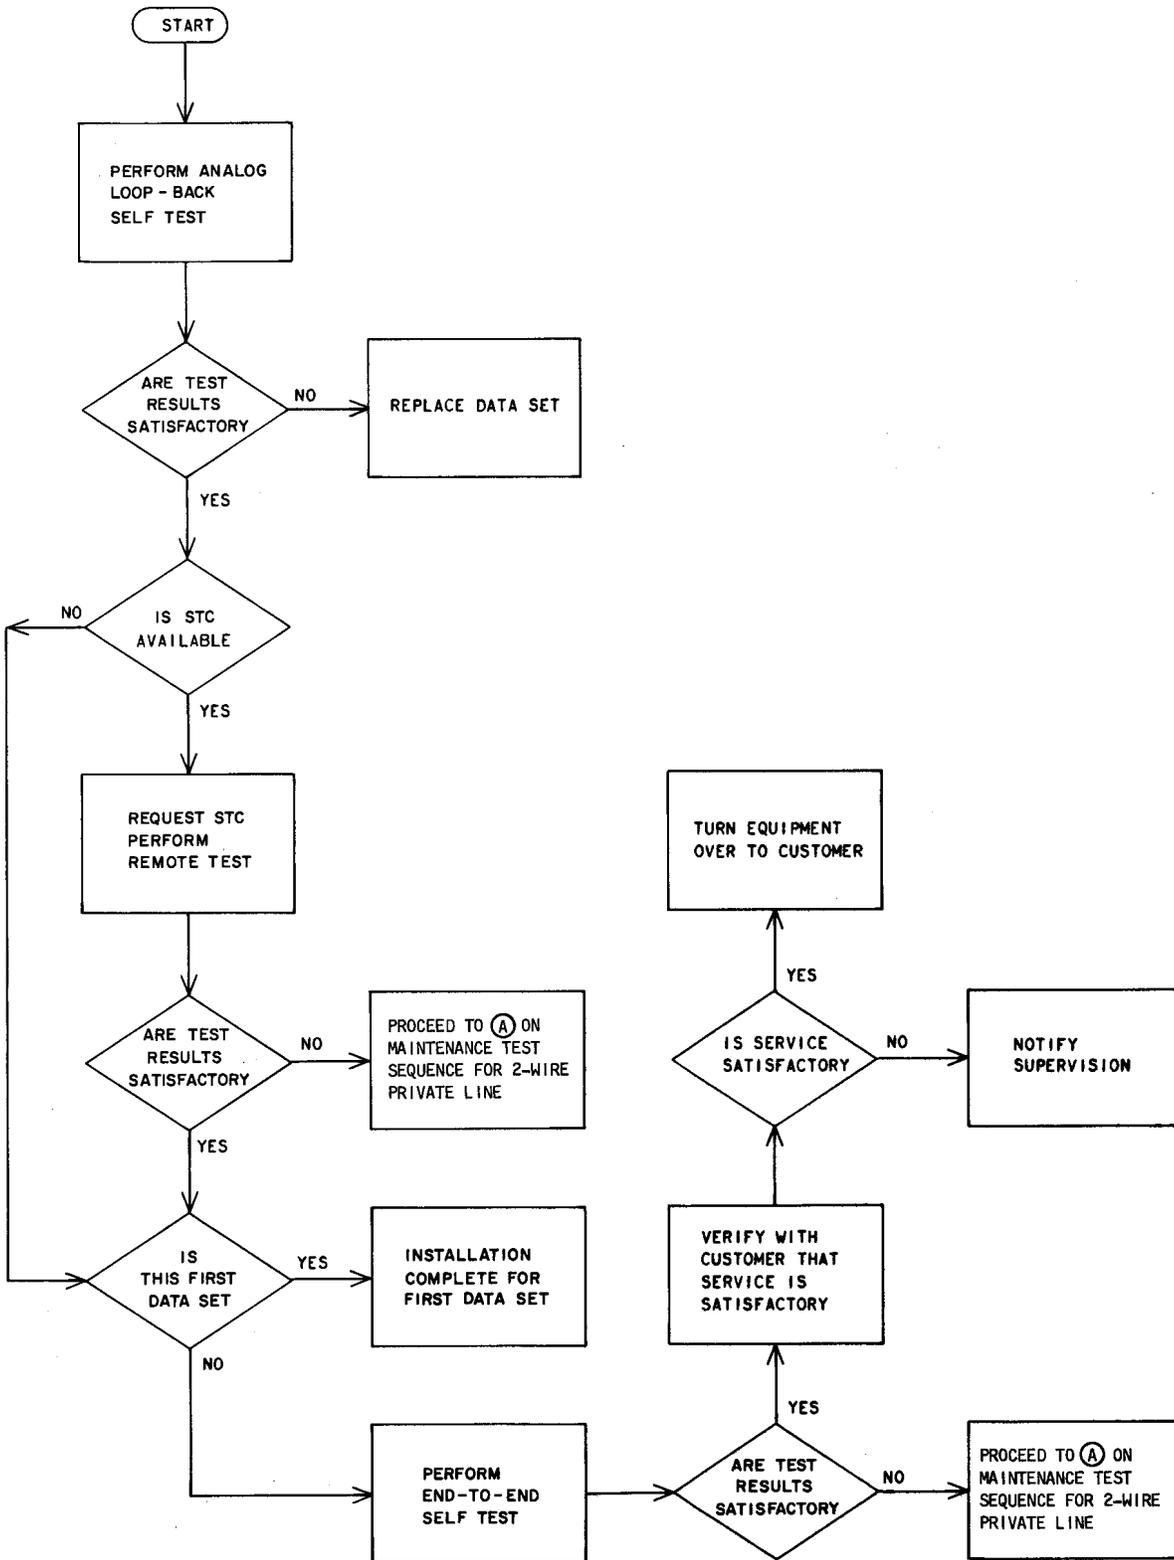
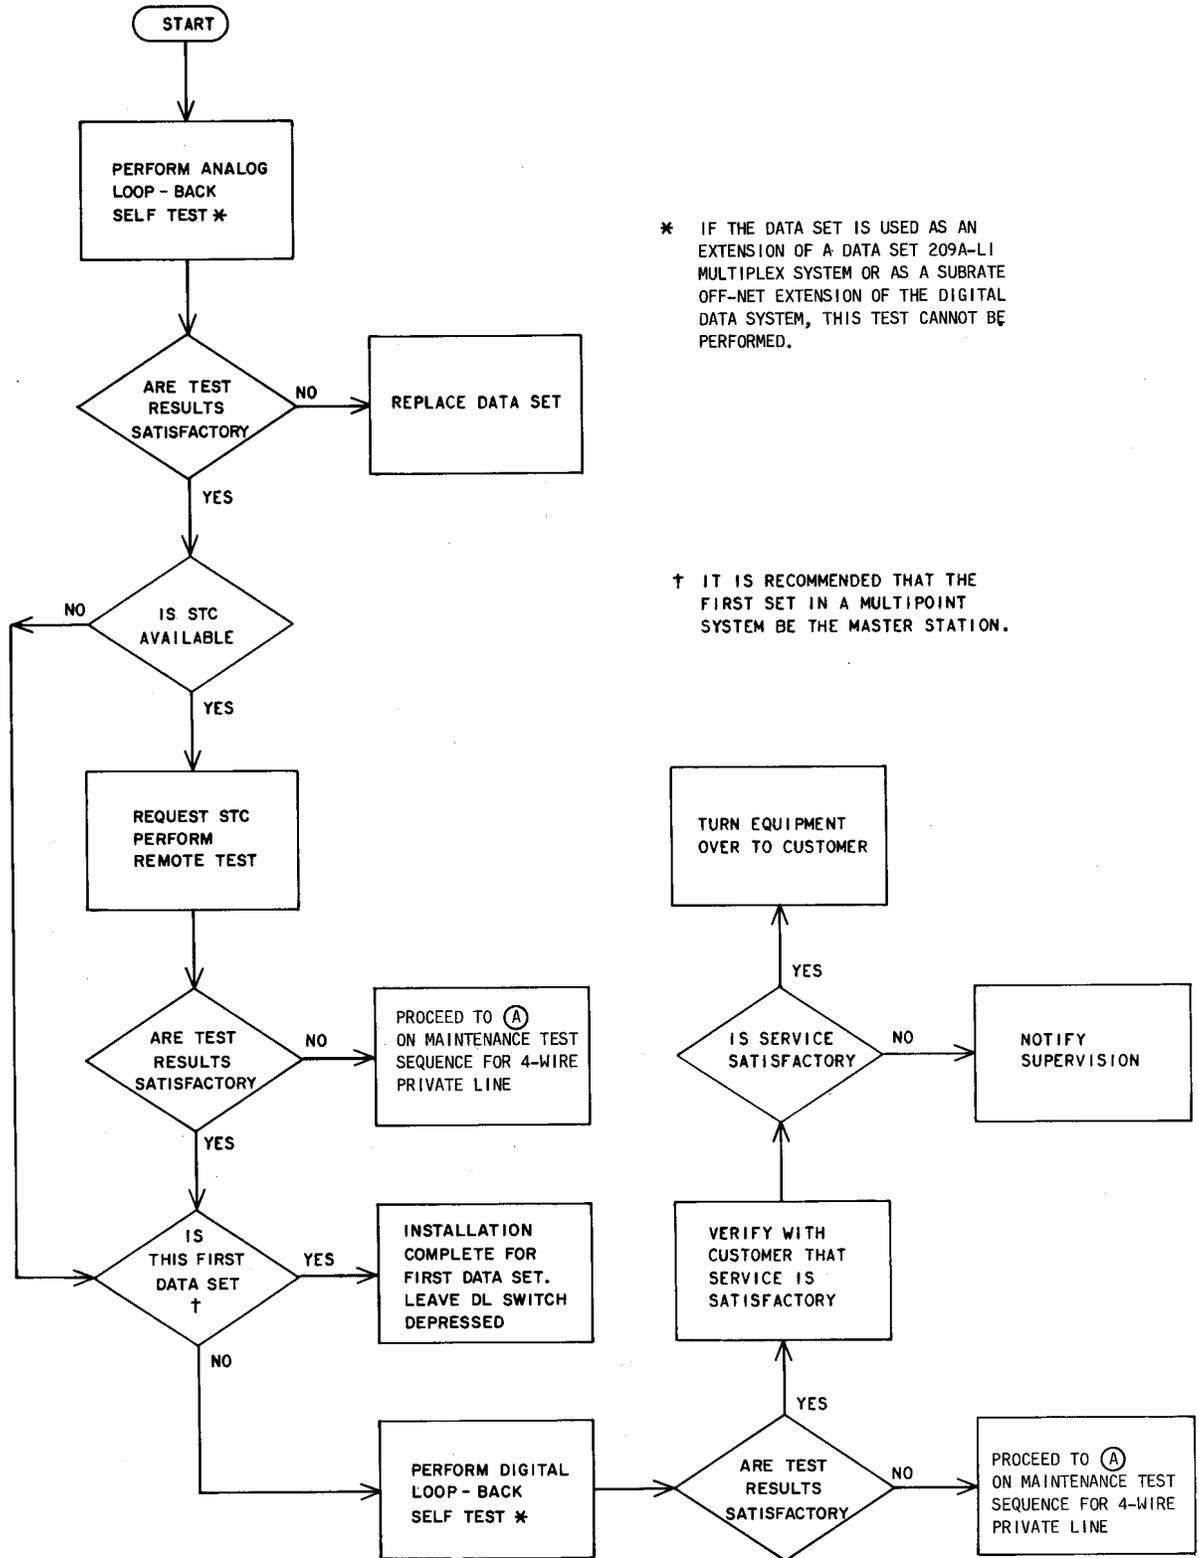

Fig. 2—Installation Test Sequence (2-Wire Private Line)
Fig. 3—Installation Test Sequence (4-Wire Private Line)
**2.03** Before proceeding with the tests, verify that the private line meets the requirements specified in Section 314-410-500. For a 2-wire private line, the installation test sequence is shown in Fig. 2. For a 4-wire private line, the installation test sequence is shown in Fig. 3.